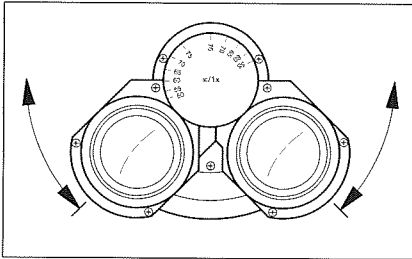

Fig. 5 Setting the interpupillary distance
- Swing the eyepiece tubes symmetrically slightly toward or away from one another to adjust the distance between the tubes to your individual interpupillary distance (Fig. 5).